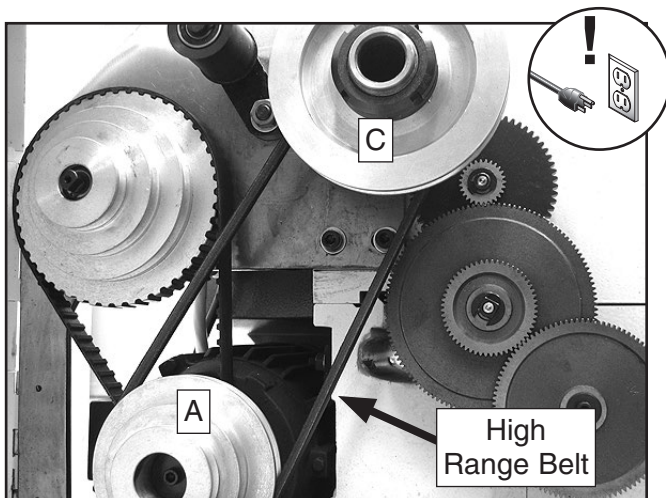
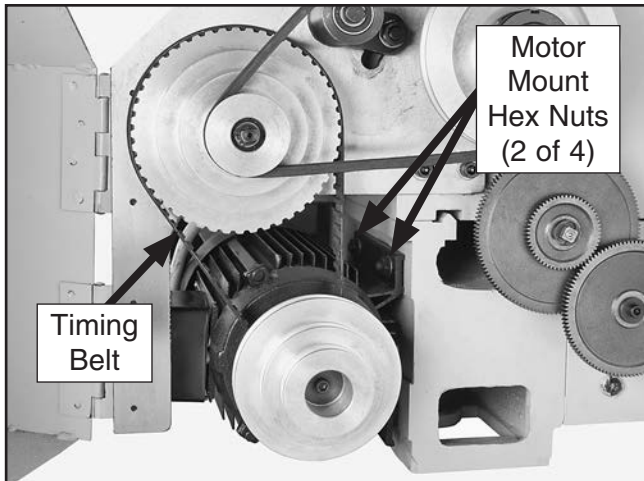

Figure 96. Model G0602 high-range belt.
Figure 99. Timing belt and motor mount hex nuts.
—If the *high range belt* (**Figure 96**) needs to be replaced, loosen the motor mount hex nuts, (see **Figure 99** on **Page 65**), raise the motor, and carefully roll the belt off of pulleys **A** and **C**. Install a new V-belt, then follow the steps in "To tension the Model G0602 high range V-belt" above.
On the Model G0602 the timing belt transfers power from the motor to the secondary drive pulley (see **Figure 99**). If the timing belt becomes excessively worn or damaged, you will need to replace it.
3. Loosen the motor mount hex nuts (see **Figure 99**).
3. Loosen the four motor mount hex nuts (see **Figure 99**) then remove the low or high range V-belt (refer to **Replacing V-Belt** on **Page 64**).